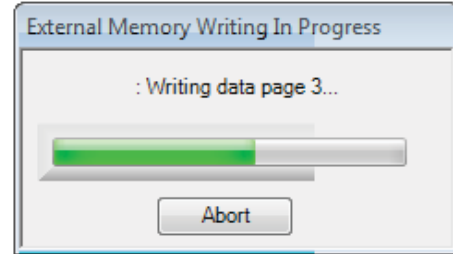

Figure 72. External Memory Write Operation Status Window
- SigmaStudio** begins the EEPROM write operation. This operation can take several minutes to complete (see Figure 72). When the status window disappears, the operation is complete.